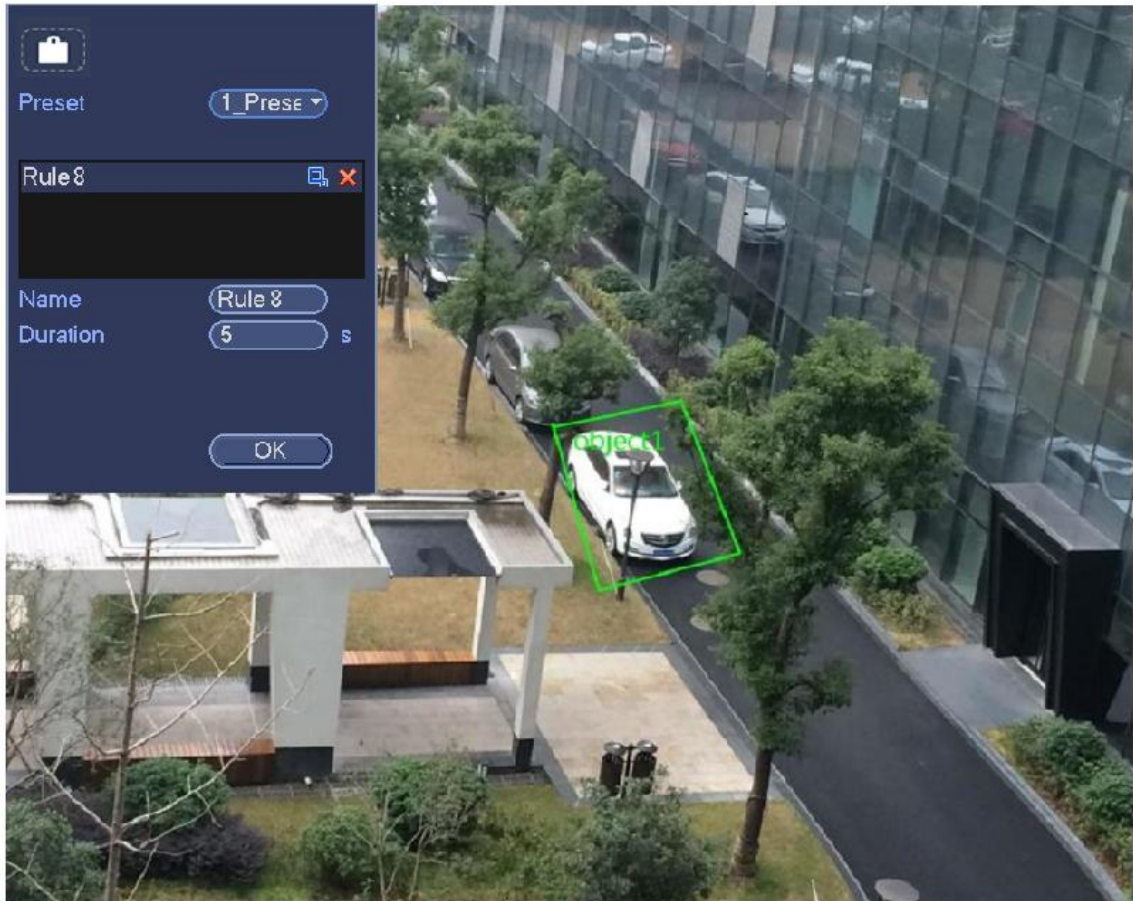

Figure 4-145
1. Click  to draw the rule in the monitoring screen. See Figure 4-145.